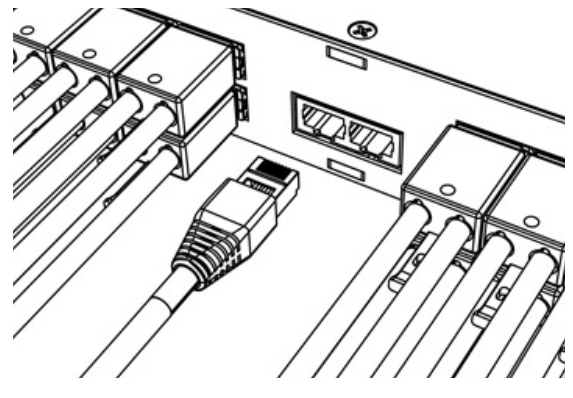

Figure 18. Alarm jacks
Step 1. Plug in a UTP cable with a TIA/EIA T568B termination into the alarm jack (see Figure 18). Refer to Table 6 for termination pinout information.